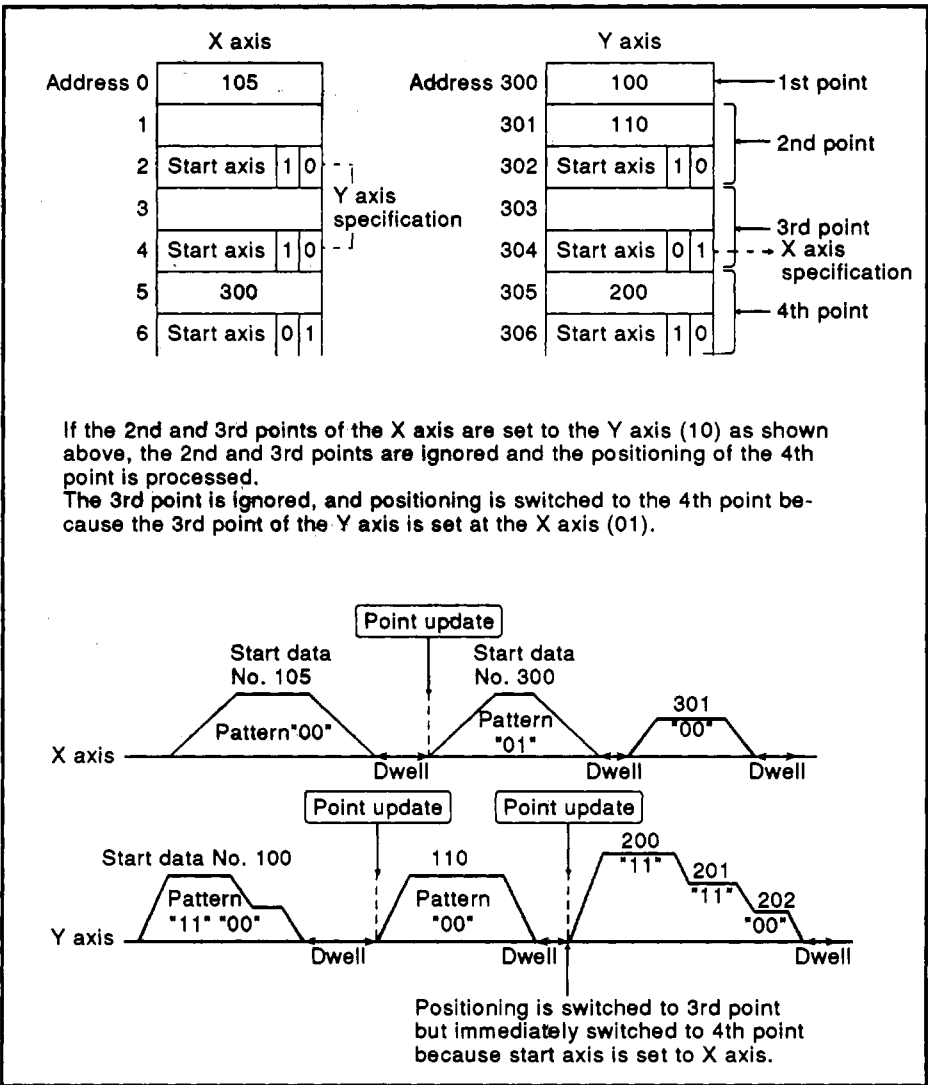

Fig. 3.32 Start Data Example 2
- 2) If the start axis in the X-axis start data number area is set at the Y axis (10), the point data is ignored (positioning is not executed) and the next point is processed. (Refer to Fig. 3.32.)